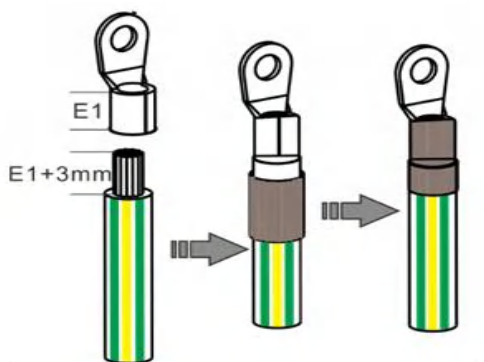
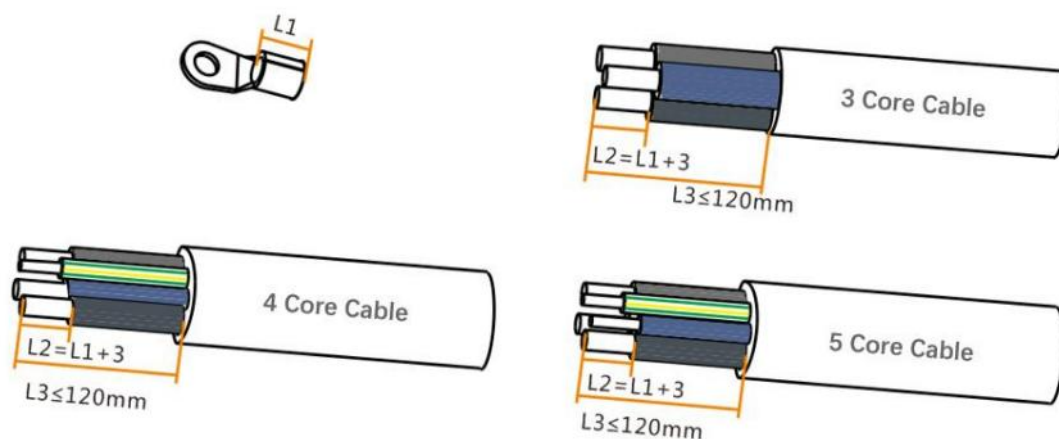
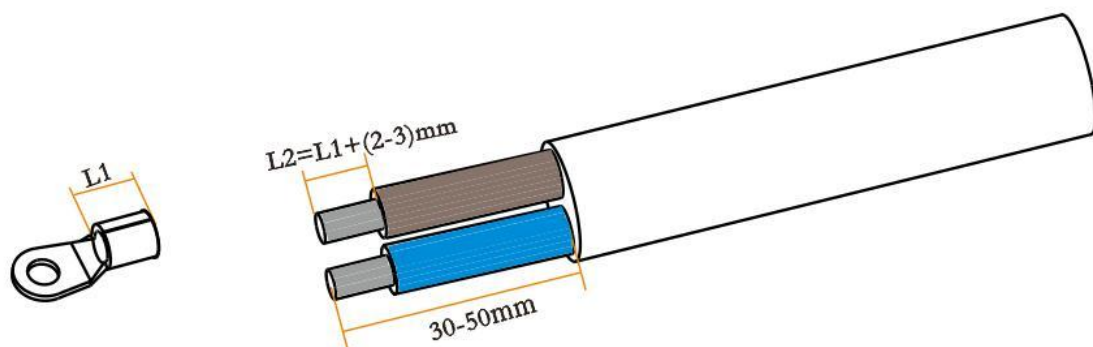

Figure 3-2 Illustration for making cables (OT terminal)
Figure 3-4 Length of stripped AC cable
Figure 3-8 Length of stripped communication cable
- Heat the heat shrinkable sleeve with a hot air gun to wrap the terminal and cable, and now the cable-processing is completed (the process is shown in Figure 3-2);
- (3) Use a wire stripper, strip the insulation layer and cable jacket according to the dimensions shown in Figure 3-4, and select the corresponding terminal according to the cable to make the AC output cable. Use two layers of heat shrink sleeves (withstand voltage $\geq 750V$), refer to Figure 3-2 for cable manufacturing process;
- (4) Connect the AC cable to the terminal block. Refer to Table 3-2 for the tightening torque of the terminal fastening screw.
- (5) After the connection is completed, tighten the plastic nut at the end of the cable lock to ensure waterproof.
- (1) Remove the communication cable lock and remove the end plug;
- (2) Lead the communication cable through the cable lock;
- (3) Use the wire stripper to strip the insulation and protective layer of the cable as shown in Figure 3-8; select the appropriate size terminal to make the communication cable (refer to Figure 3-2);